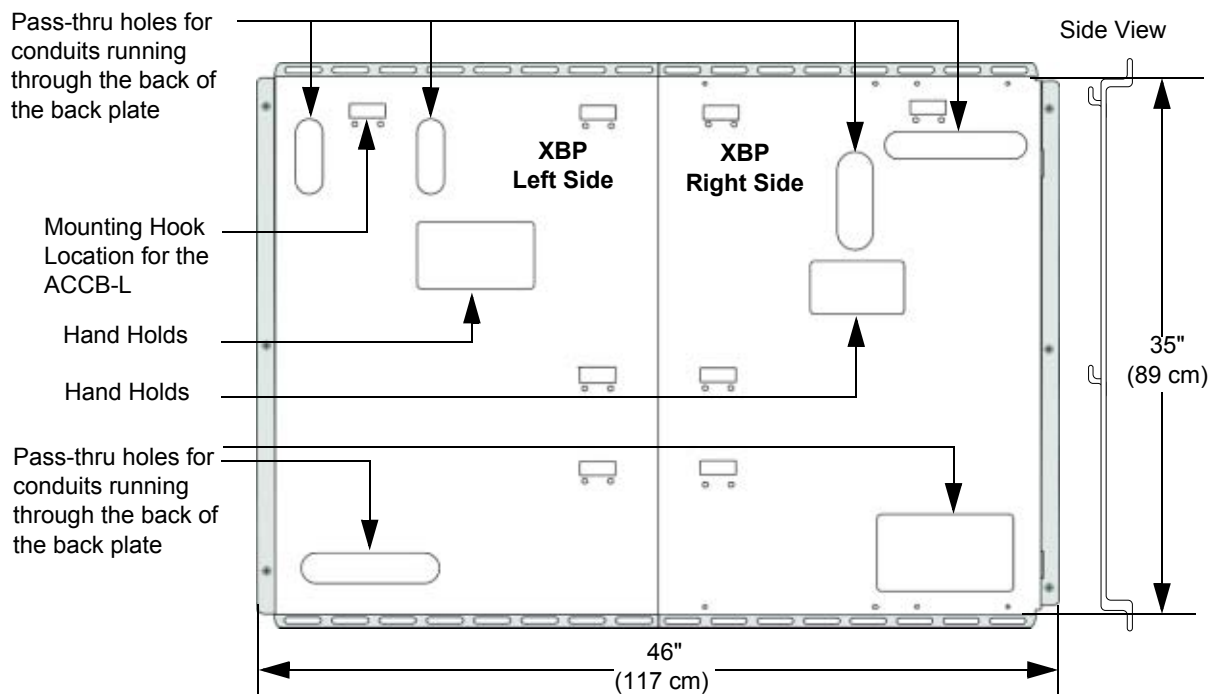

Figure 2-8 The Xantrex Back Plate
1. Install the mounting hook (if used) onto the backplate in the position indicated in Figure 2-8 for the Long AC Conduit Box. See the XBP Installation Instructions for details.